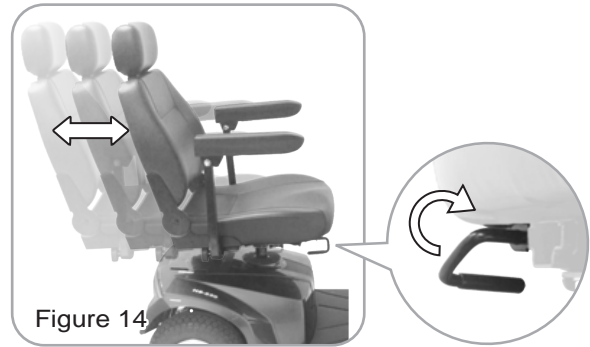

Figure 14
- Set at a comfortable position by lifting lever forward to adjust the seat. (Figure 14)